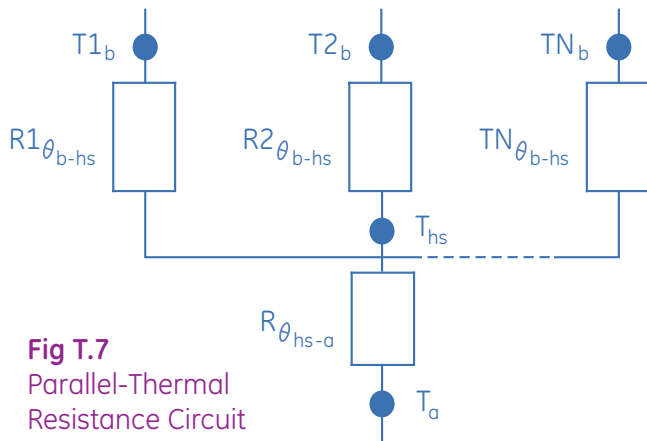

Fig T.7
The following figure, Fig T.7, illustrates a system that incorporates two (2) or more Vio LED devices:
In Fig T.7, the total thermal resistance between a given number (N) of LED boards and a heat sink can be calculated using the following equation, Eq.5: